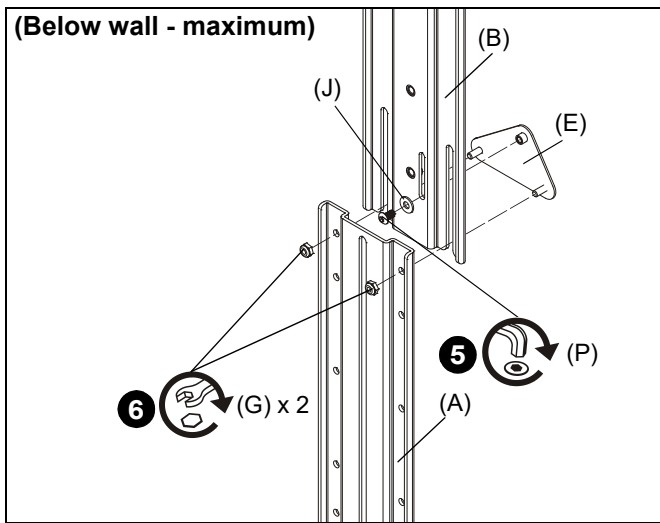

Figure 5
- (For **maximum extension**) Use #10-32 x 3/8" button head cap screw (P) and small washer (J) to secure adapter plate (E) to main bracket (B). (See Figure 5)
- (For **maximum extension**) Use two #10-24 lock nuts (G) to secure upright bracket (A) to main bracket (B) and adapter plate (E). (See Figure 5)